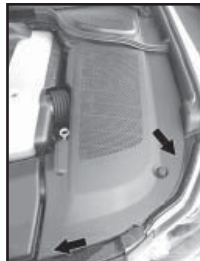

Fig. 2
2. Locate the words "Clip Behind" on the plastic cover, pull the cover up from this location. (Fig 2)